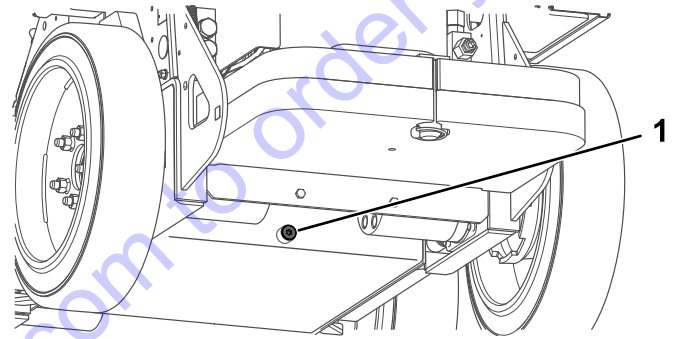

Figure 37
5. Remove the drain plug from the bottom of the hydraulic tank and allow the fluid to completely drain out (Figure 37).